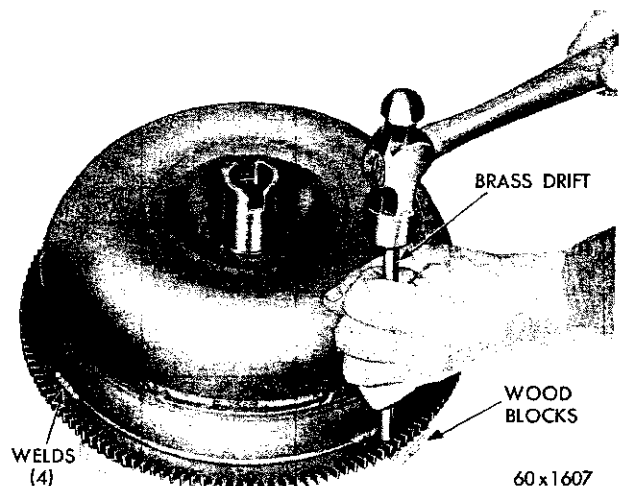

Fig. 85—Removing Starter Ring Gear
- (1) Cut through the weld material at the rear side of ring gear with a hack saw or grinding wheel (Fig. 85). Be careful not to cut or grind into the front cover stamping.
- (2) Scribe a heavy line on the front cover next to the front face of the ring gear to aid in locating the new gear.
- (3) Support the converter with the four lug faces resting on blocks of wood. **The converter must not rest on front cover hub during this operation.** Using a blunt chisel or drift and hammer, tap downward on the ring gear near the welded areas to break any remaining weld material (Fig. 85). Tap around the ring gear until it comes off the converter.